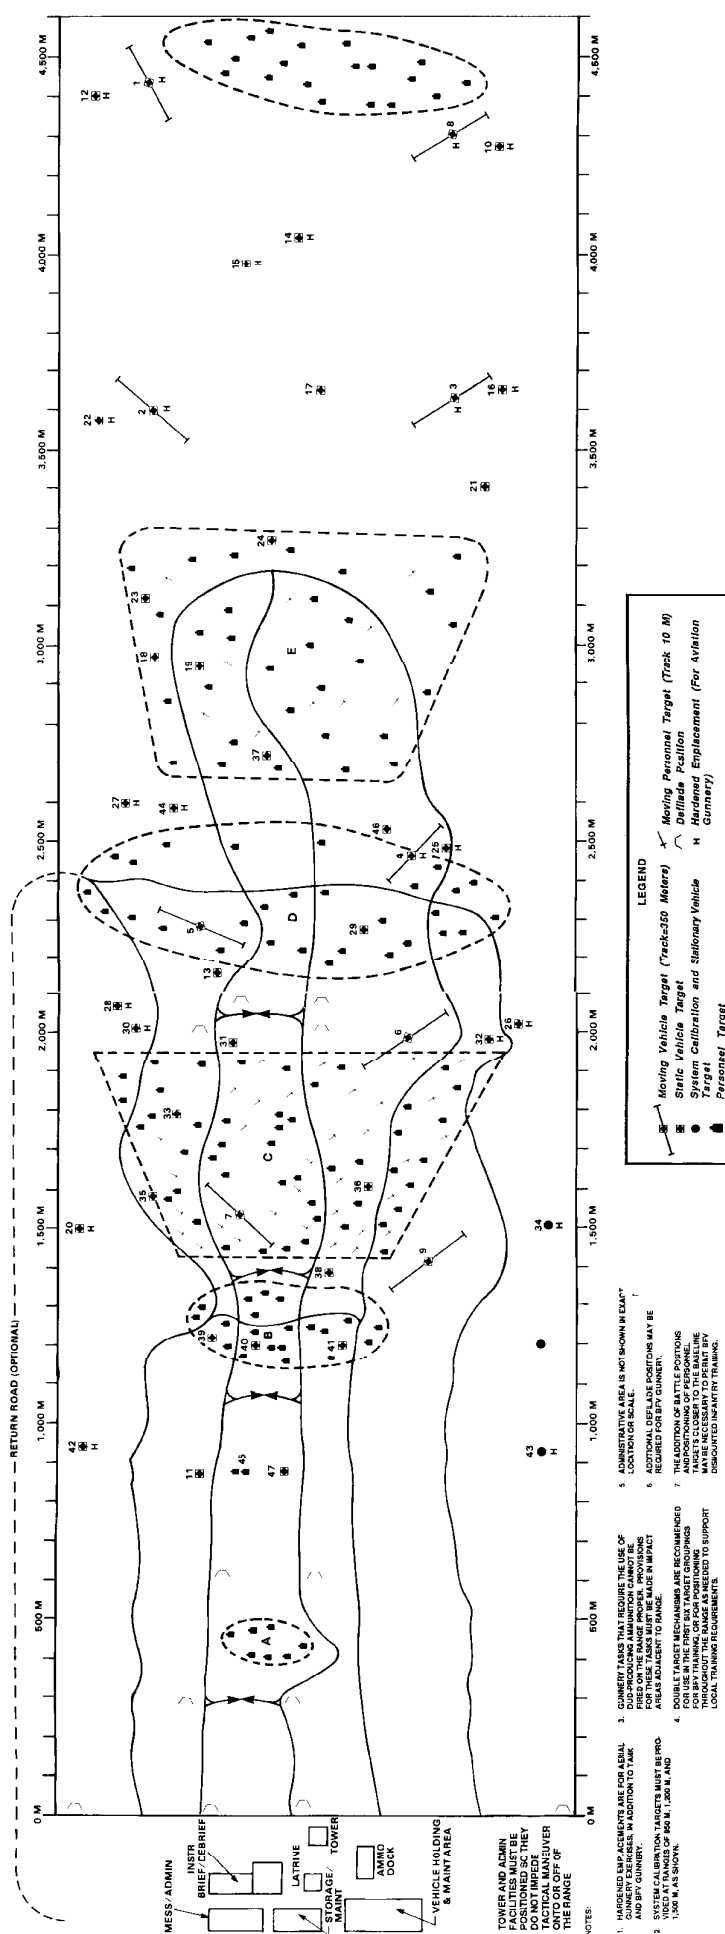

Figure C-2. Multipurpose range complex (light).
(1) A light MPRC consists of one 4,600-meter by 1,000-meter lane. This area comprises approximately 1,136 acres (Figure C-2, page C-4).
(2) The light MPRC has the following targets and fixed positions (see TC 25-8 for target arrays):